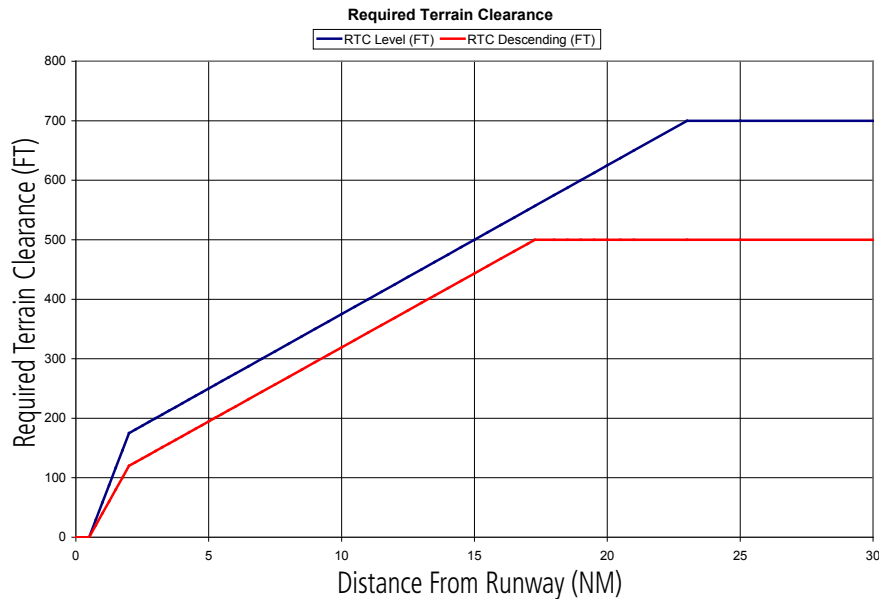

Figure 6-84 FLTA Alert Minimum Terrain and Obstacle Clearance Values
**Reduced Required Terrain Clearance (RTC)** and **Reduced Required Obstacle Clearance (ROC)** alerts are issued when the aircraft flight path is above terrain, yet is projected to come within the minimum clearance values in Figure 6-84. When an RTC alert is issued, a potential impact point is displayed on the TAWS-B Page.
**Imminent Terrain Impact (ITI)** and **Imminent Obstacle Impact (IOI)** alerts are issued when the aircraft is below the elevation of a terrain or obstacle cell in the aircraft's projected path. ITI and IOI alerts are accompanied by a potential impact point displayed on the TAWS-B Page. The alert is annunciated when the projected vertical flight path is calculated to come within minimum clearance altitudes in Figure 6-84.